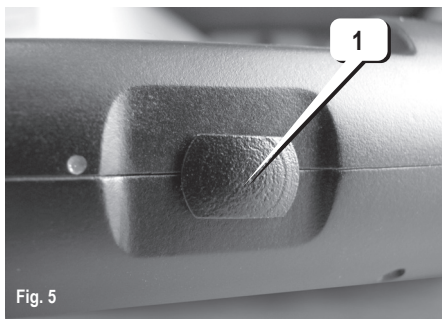

Fig. 5
4.4. On the side surface of the control panel (see 1 in Fig. 5) a slide-type power switch is placed. A slide position corresponding to «ON» is marked by a contrast point. The device operates only when a charged battery is connected to it. A battery is screwed on the back side of the control panel. The appearance of a battery is shown in Fig.6. While a battery is being screwed on, the positive battery lead must not be short-circuited with a case (see 1 in Fig.5).
6.2. To start operation set the battery and turn «LORNET» on by the power switch placed on the control panel (Fig.5). The 2nd and 3rd indicators on the control panel will light up, indicating that the